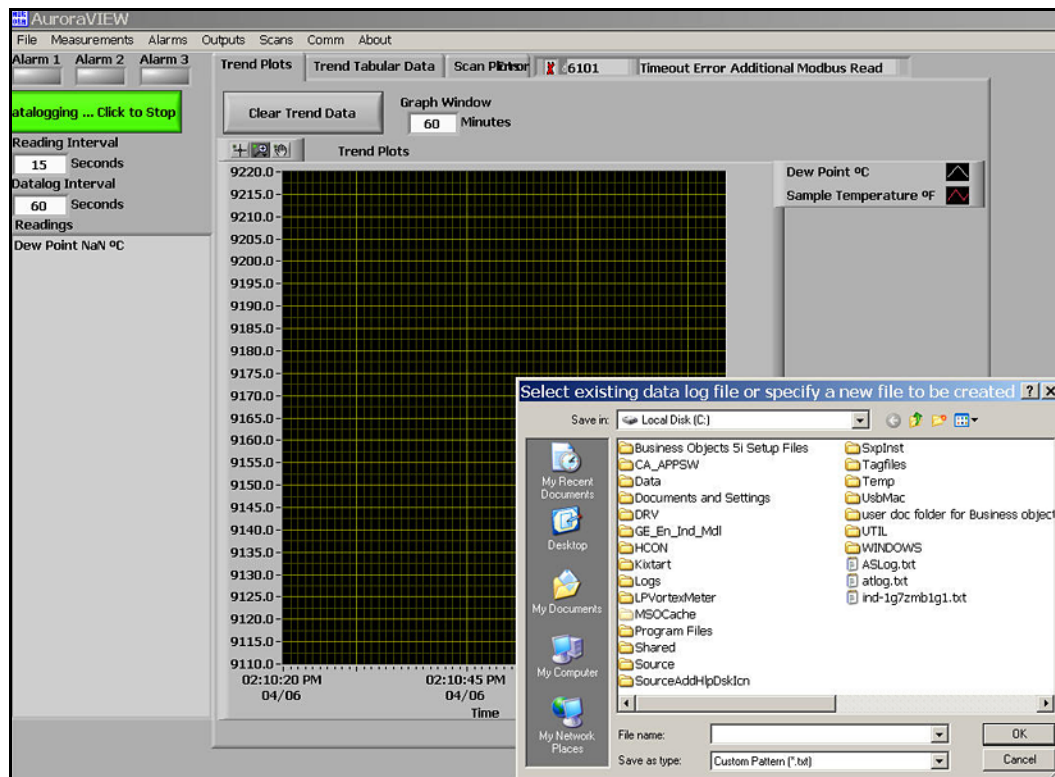

Figure 41: Datalogging with AuroraView
1. In the main view (see Figure 41 below), click on the button Click to Datalog.